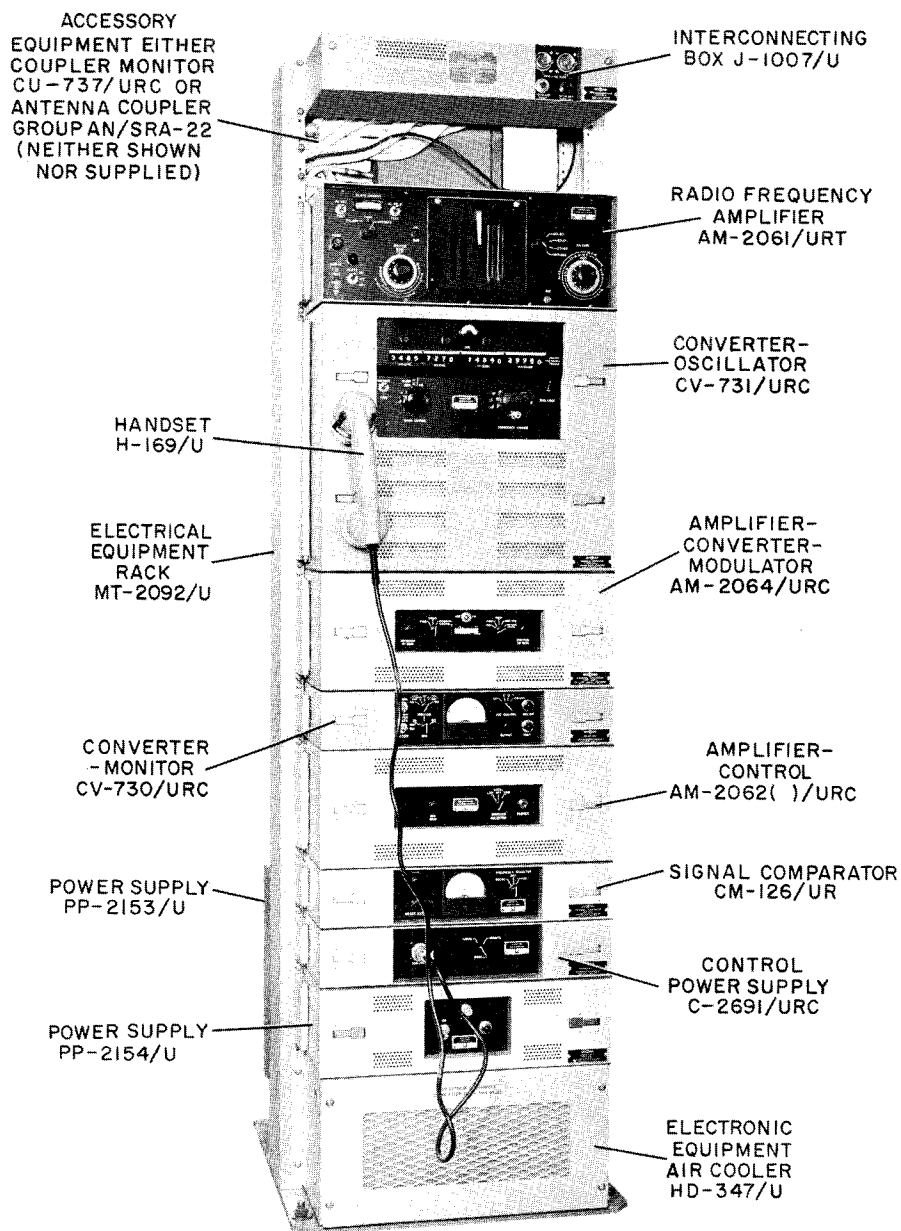

Figure 1-1. Radio Set AN/URC-32( )
Refer to figure 1-1. The AN/URC-32( ) equipments are composed of ten functional units plus a dynamic handset mounted in a standard 19-inch open rack. All units except the dummy antenna, the blower, the low-voltage power supply, and the junction box are hinged at the left side for ease of maintenance. All operating controls are accessible from the front of the rack. Except for the high-voltage power supply and the junction box, all electrical con-
a. INTERCONNECTING BOX J-1007/U. - (Refer to figure 1-1.) The J-1007/U contains the main power fuse holders and space for mounting the terminal blocks of the interconnecting cables. Except for coaxial cable connections, all interconnections are made through Interconnecting Box J-1007/U. All interconnecting cables except those for the high-voltage power supply are terminated in connectors which mate with the major units.
h. CONTROL-POWER SUPPLY C-2691/URC AND DYNAMIC HANDSET H-169/U. - (Refer to figures 1-1, 1-8, and 1-9.) The C-2691/URC is used to enable local operation of the AN/URC-32( ) with a dynamic handset or remote operation using Radio Set Control C-1138/UR or equivalent and a handset. A front panel control connects audio input, audio output, and transmit key line to either the local or remote operating position. The unit contains a 12-volt d-c supply and microphone transformer necessary